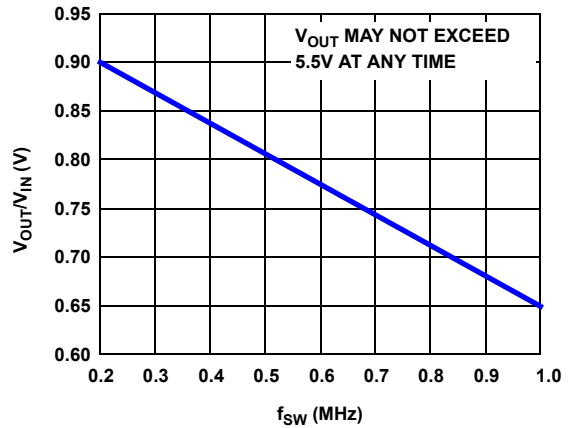

FIGURE 8. MAXIMUM CONVERSION RATIO, $T_J \leq +125^\circ\text{C}$
10. Refer to Safe Operating Area in Figure 8 and thermal design guidelines in AN2010.
12. Percentage of Full Scale (FS) with temperature compensation applied.